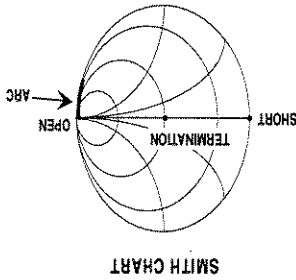

Figure 8-6 Smith Chart Display 2
3. *Connect the Open.* An Open appears as an arc on the chart's right edge. This is due to the fringing capacitance of the Open standard (Figure 8-6).